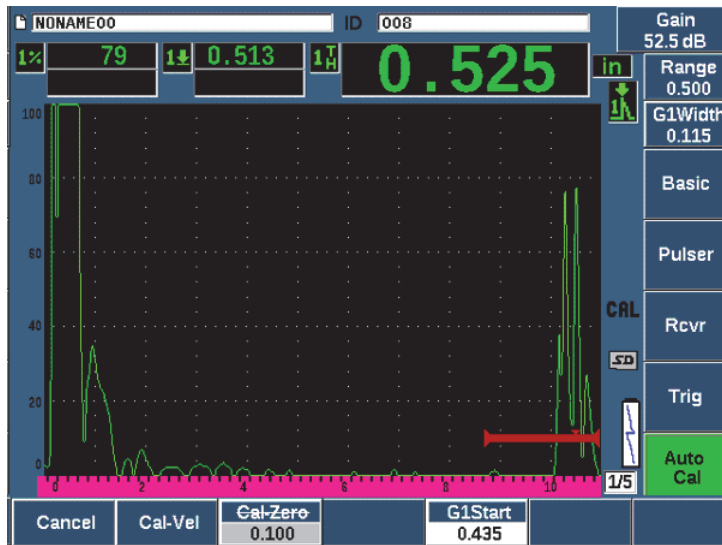

Figure 9-8 Example of a gated signal for velocity calibration
- Adjust the value to match the known thickness of the gated indication (0.100 in. in this example), and then press **Continue** (P3 key) to continue to the second calibration step (see Figure 9-8 on page 167). The thickness value used in this part of the calibration will be stored for reference in the **Cal-Zero** parameter box.